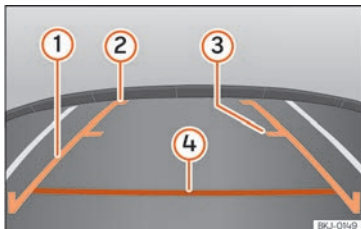

Fig. 296 Display on the Easy Connect system screen: guide lines.
- Vehicle load modifies the representation of the guide lines »» Fig. 296. The width represented by the lines decreases with vehicle load. Pay special attention to the surroundings when the inside of the vehicle of the luggage compartment are loaded.
Meaning of the orientation lines »» Fig. 296